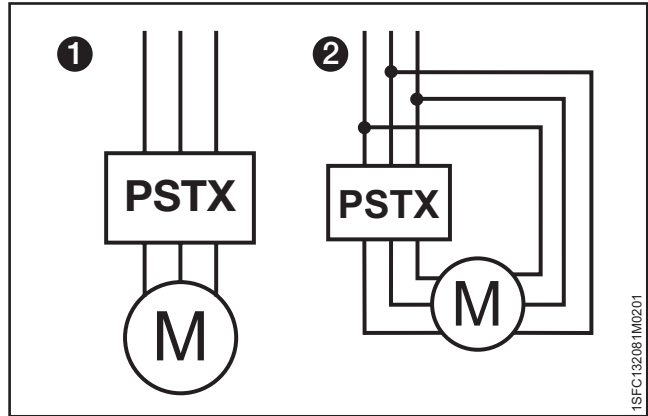
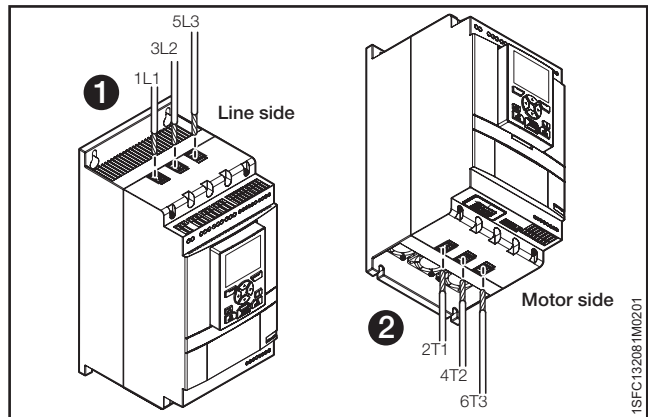

Figure 5.1
Figure 5.2
Softstarters PSTX30...PSTX1250 can be connected In Line, see **1** **Figure 5.1**, and Inside Delta, see **2** **Figure 5.1**. Use wire connection for PSTX30...105 see **Figure 5.2**. Terminal connection for PSTX142...1250 see **Figure 5.3**.
- Connect the line side to terminals 1L1, 3L2, 5L3, see **1** in **Figure 5.2** and **Figure 5.3**.
- Connect the motor to terminals 2T1, 4T2, 6T3 on the motor side, see **2** in **Figure 5.2** and **Figure 5.3**.